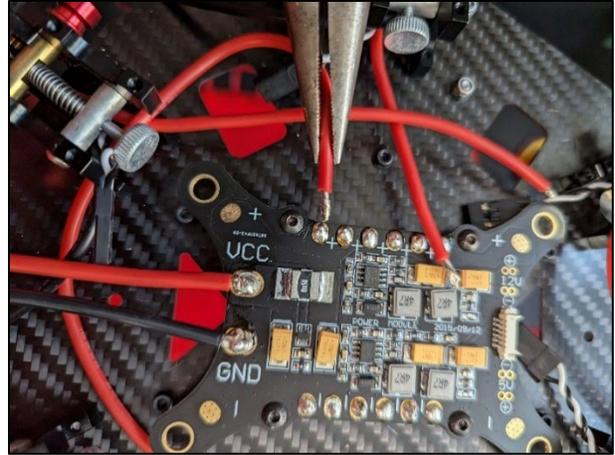

Figure 41 Exposed wire with flux and solder applied
2. Flux and apply solder to the exposed ends of each wire as shown in **Figure 41**. Ensure that the red and black wires for each ESC occupy pads that are directly opposite each other.